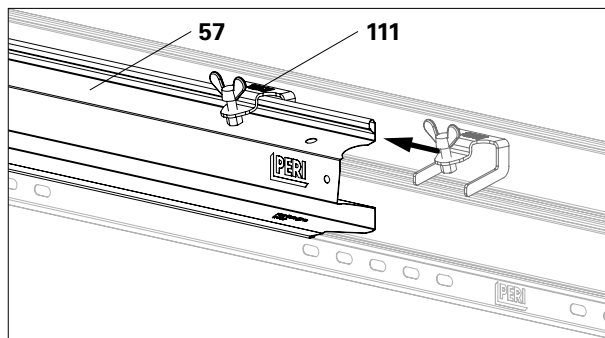

Fig. B7.07
1. Slide the Toe Board Compensation UPY-L (111) onto the first Toe Board UPY (57). (Fig. B7.07)
2. Slide the second Toe Board UPY (57) between the Toe Board UPY and Toe Board Compensation UPY-L in an overlapping position.